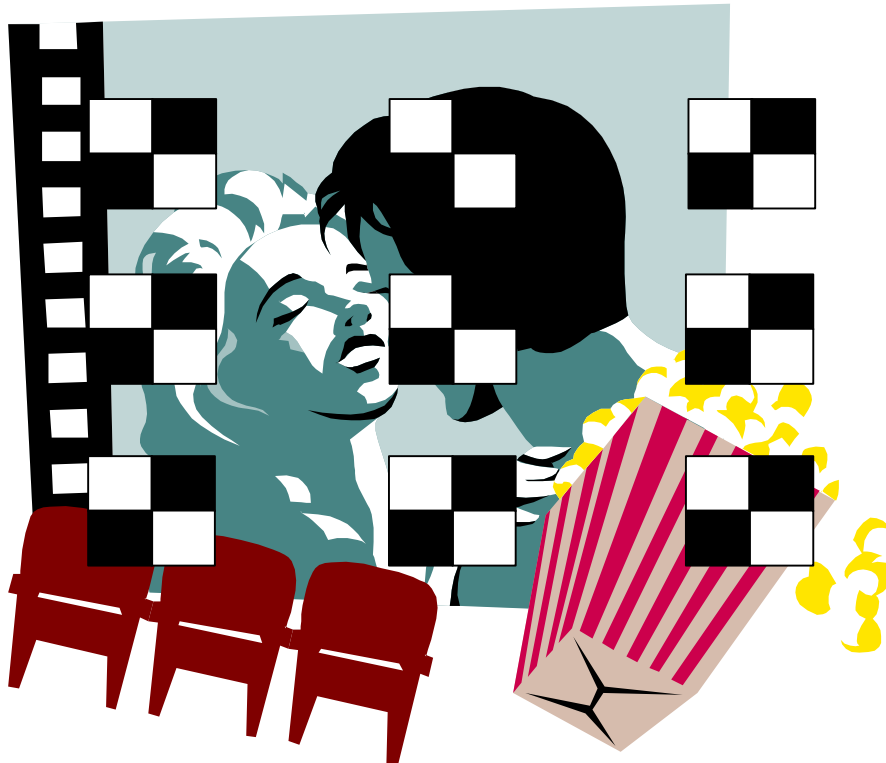

Figure 5-19. Cont/Bright Test Pattern . The nine black and white squares overlay the video image on the screen.
4. Use the right/left arrow keys to increase or decrease the Brightness setting to a point where the blackest part of the video image is equal to the black squares in Figure 5-19.
3. Use the right/left arrow keys to increase or decrease the Contrast setting to a point where the whitest part of the video image is equal to the white squares in Figure 5-19. **NOTE:** Contrast can be adjusted for individual colors as well as all colors combined. To adjust only one color, toggle the RGB key to the color desired, hide the other two colors, and use the left/right arrow keys to adjust. Access Test Pattern 1 (Off) to remove the Cont/Bright overlay pattern.